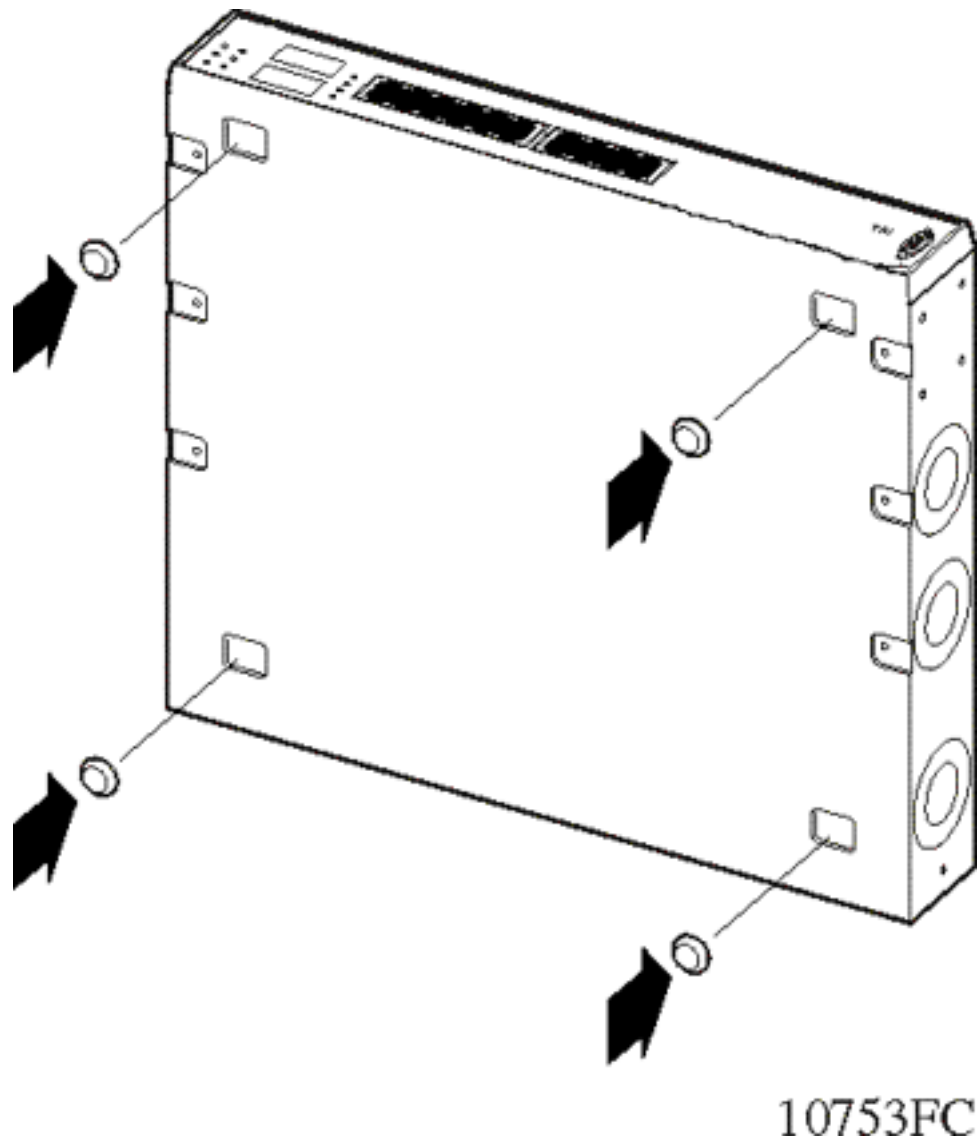

Figure 9: Attaching rubber footpads to a 5500 Series switch
1. Using Figure 9: Attaching rubber footpads to a 5500 Series switch on page 63 as a guide, attach the provided rubber footpads to the bottom of the switch in the locations shown.